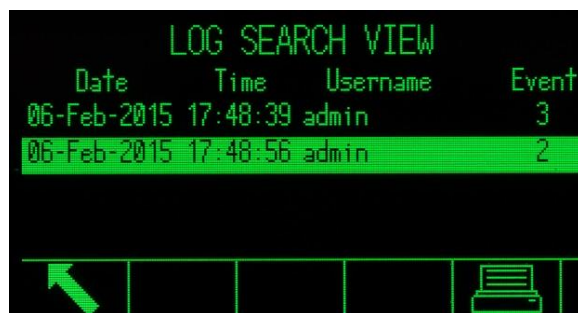

Figure B-9: Maintenance Log Search Screen
2. Press the VIEW TABLE softkey . The Maintenance Log Search screen displays (Figure B-9).